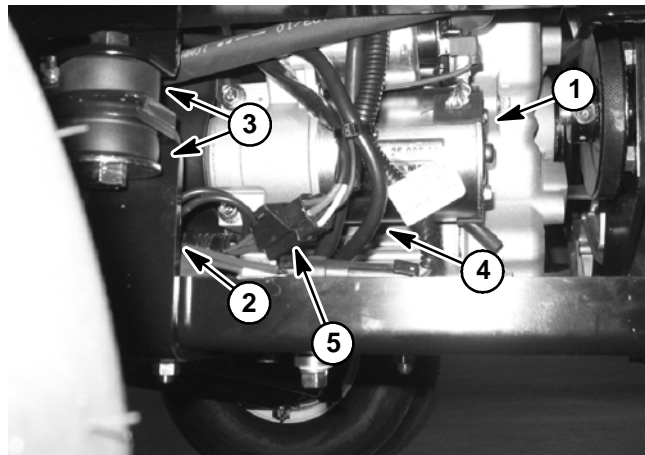

Figure 12
C. Remove flange head screw and nut under starter motor that secures engine and negative (-) cable to engine mounting plate (Fig. 12).
D. From below, install flange head screw and nut under starter motor that secures engine and negative (-) cable (Fig. 12).